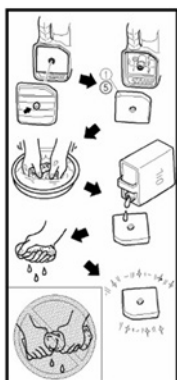

Fig. 1
1. Open the air filter cover (Fig. 1 for models KSB 21i, KSB 35i; Fig. 1, 2 for models KSB 21i S, KSB 31i E S).